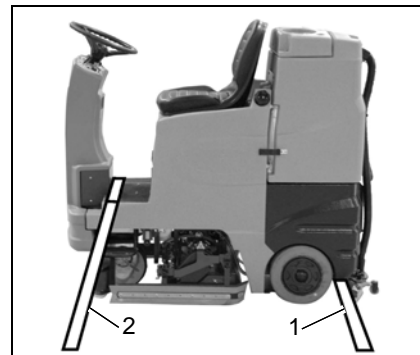

Fig.2
2. Fix a strapping belt (Fig. 2/1) through the eyelets behind the rear axle.
3. Lay another strapping belt (Fig. 2/2) over the foot space.